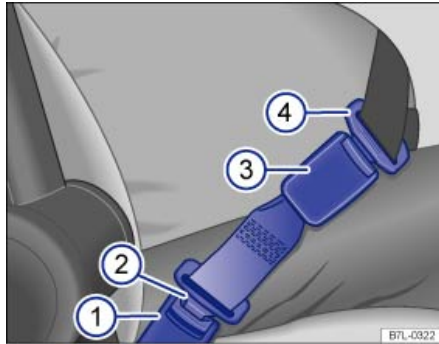

Fig. 59 A safety belt extender properly attached to the factory-installed safety belt.
Key to fig. 59:
- Insert the buckle tongue on the safety belt extender ⇒ *fig. 59 (2)* into the vehicle belt buckle for the seat where the safety belt extender is being used *(1)*.